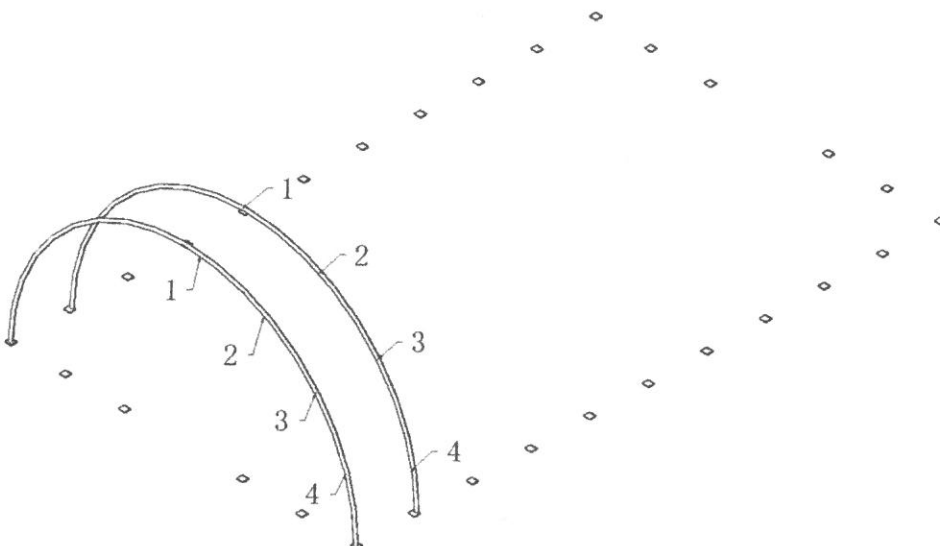

Figure 6
2.Put the second group of arch frame into the base plates like the Figure 6 shows.Use purlins(No.5) to connect them by boltM12x100(No.18) and angle iron(No.17),then install the third arch into the base plate and connect the purlins.In this turn fix all other arches and purlins as figure 7 shown until the frame is completed.